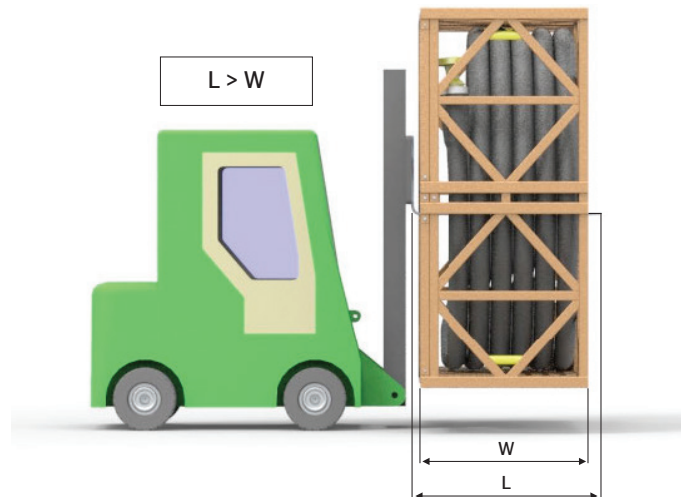

Fig. 13 Lifting steel crate by forklift
- Using a forklift truck: Lift up the crate under the horizontal stiffener in the middle of the crate, see Fig. 13. The forklift truck's forks must be longer than the width of the crate ( $L > W$ ).